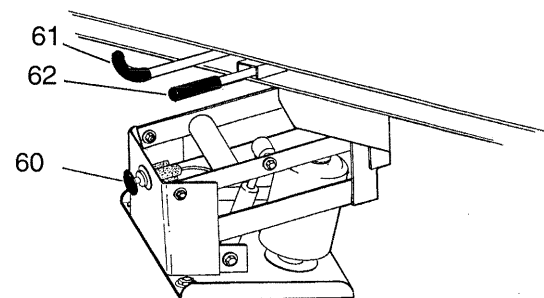

Fig. 3-15 Seat Adjustment Controls
60. Seat Height Adjustment Control See Fig. 3-15
See Fig. 3-15